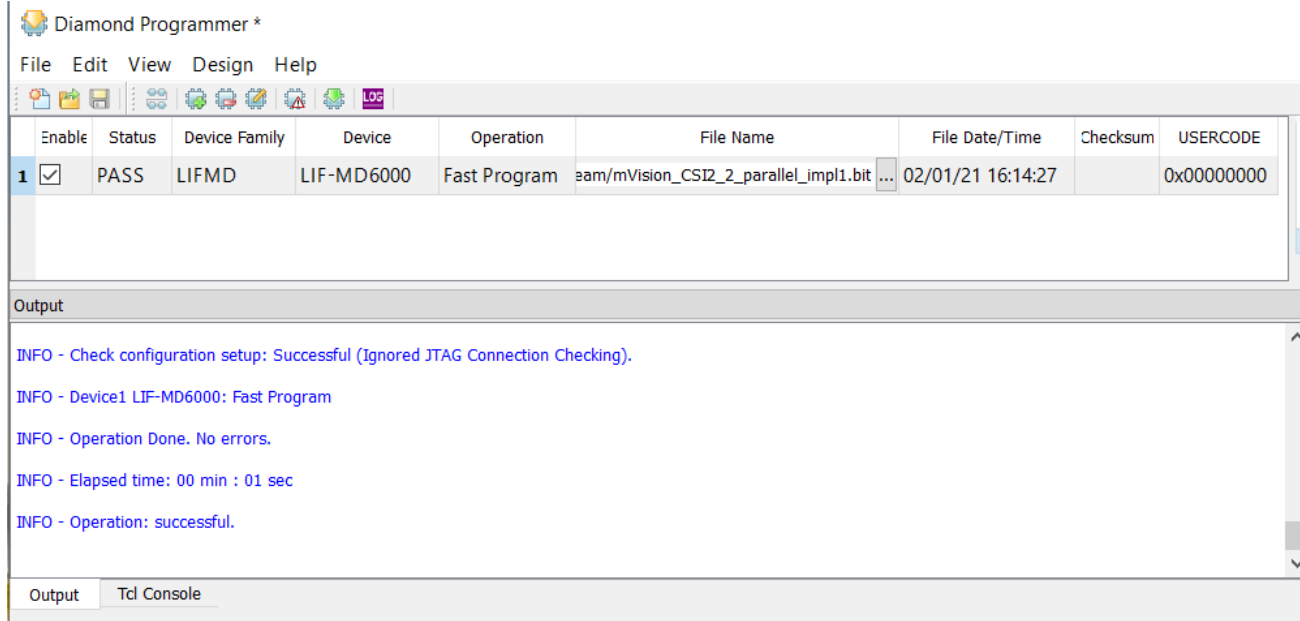

Figure 5.3 CrossLink Board Programming Status and Result
6. Click the Program icon  from the toolbar, or choose the Design > Program menu item from Diamond Programmer, to program the CrossLink board. Check the programming status and result (Figure 5.3).